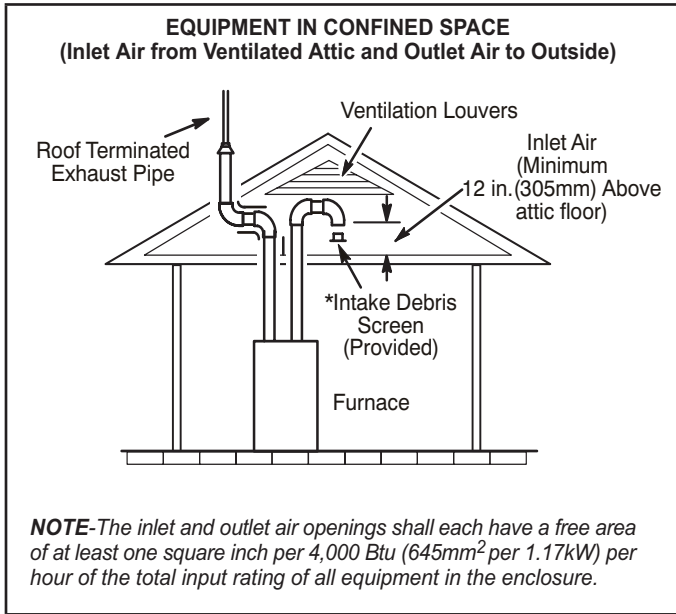
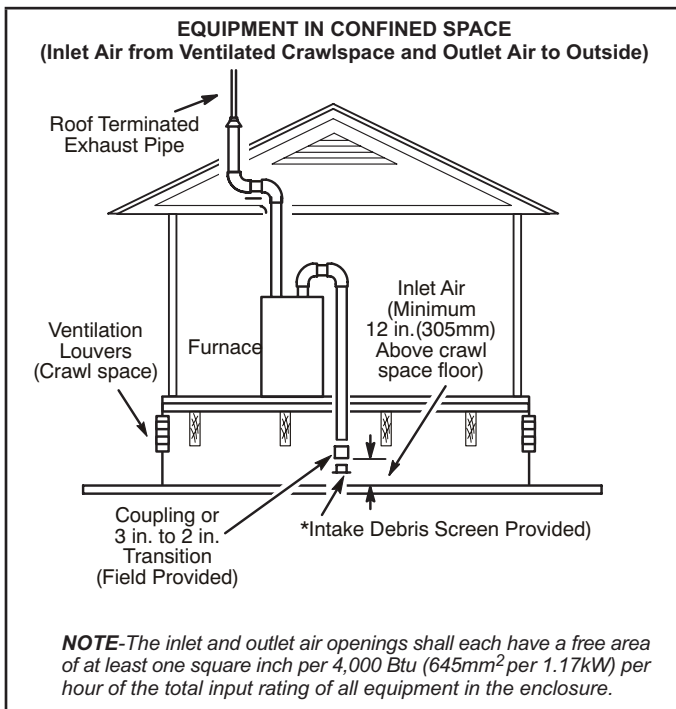

FIGURE 29
FIGURE 30
- 2 - If intake air is drawn from a ventilated attic (FIGURE 29) or ventilated crawlspace (FIGURE 30) the exhaust vent length must not exceed those listed in TABLE 14. If 3" diameter pipe is used, reduce to 2" diameter pipe at the termination point to accommodate the debris screen.